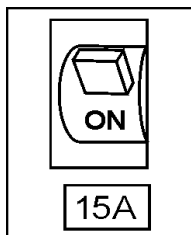

Figure 18. 60 Hz Circuit Breaker (ON)
- Place the 60 Hz, 15 amp circuit breaker (Figure 18) in the **ON** position.